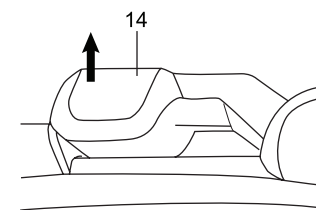

Fig 6
Lift up the front handle (14) until hear a “click”. To fold it back, simply depress it a bit harder. (Fig. 6&7)